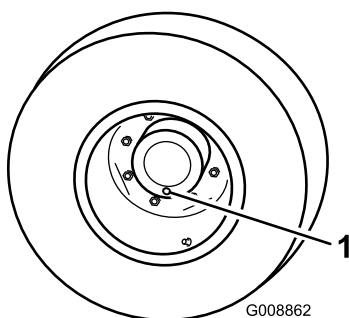

Figure 103
1. With the machine on a level surface, position a wheel so a check plug is at the lowest (6 o'clock) position (Figure 103).